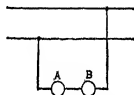

FIG. 18. Lamps *A* and *B* are in series.
(1) **Series.** When the pieces are connected in tandem, or one after the other, they are said to be in series. Lamps *A* and *B* of Fig. 18 are in series.